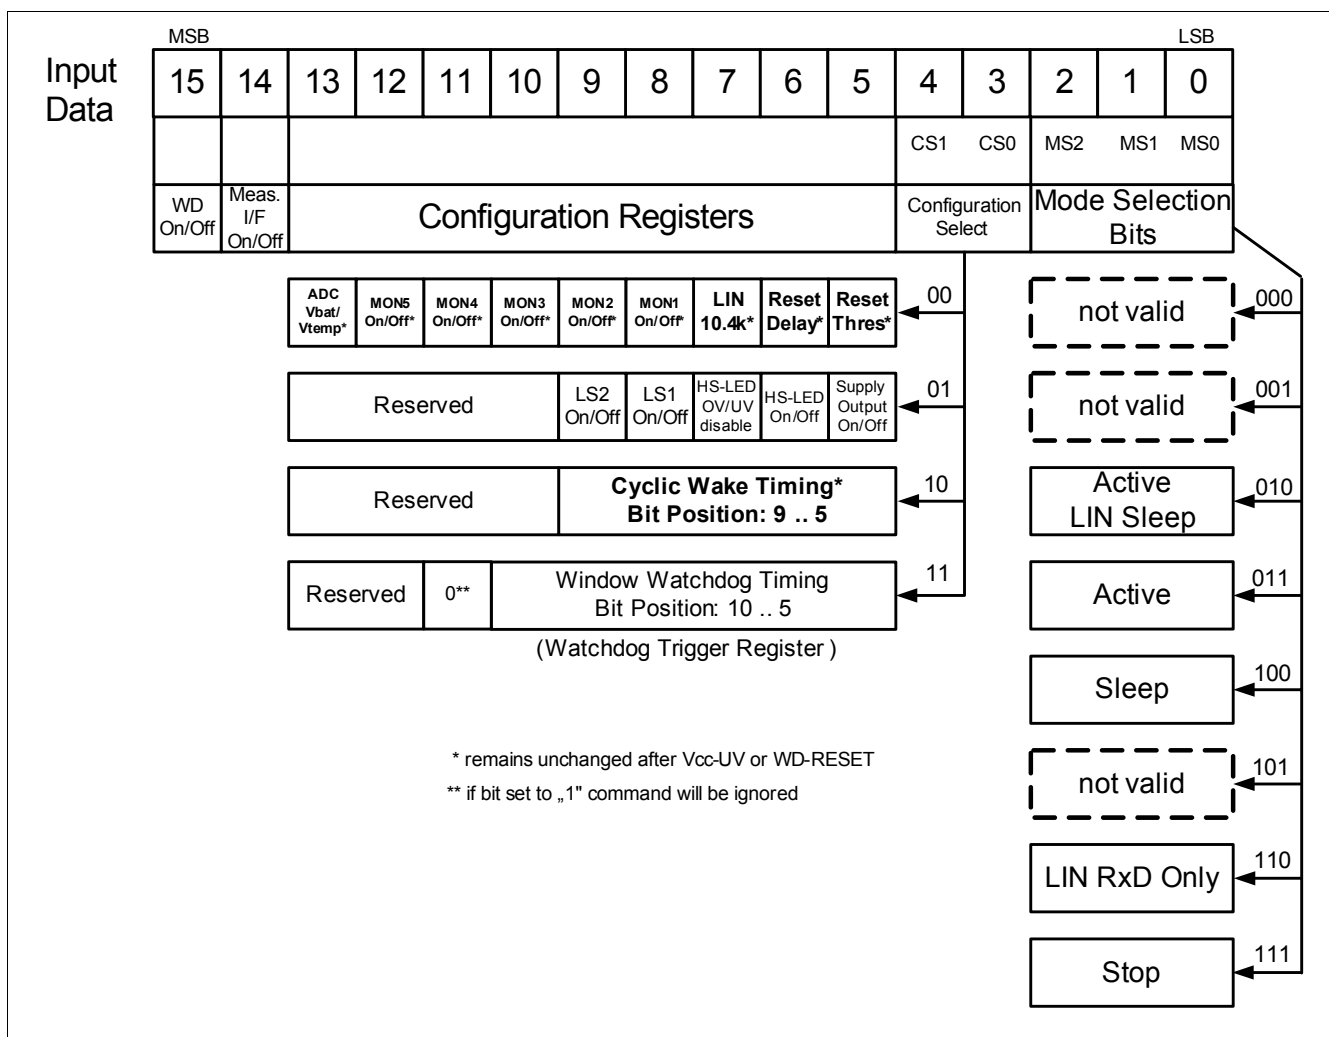

Figure 10 16-Bit SPI Input Data / Control Word
*Note: The window watchdog is automatically disabled once the LDO output current goes below a specified “watchdog current threshold”, unless the SPI setting “WD On/Off” prevents this (see Figure 10, Watchdog disable current threshold, Table 14 and “Window Watchdog Reset Period Settings” on Page 22).*
*Note: The window watchdog is automatically disabled once the LDO output current goes below a specified “watchdog current threshold”, unless the SPI setting “WD On/Off” prevents this (see Figure 10).*